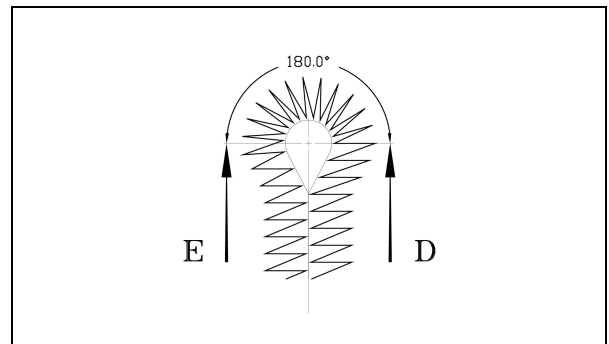

Fig 3
1. When stitching around the eye, the upper and lower races must turn exactly 180 degrees. Loosen screw (C) and move forward for increased turning, and move back for less turning.
2. The race must begin turning at point (D) of the buttonhole, and must stop turning at point (E), as in Fig 3. Loosen screw (F) and move the stud forward to slow the turning, and move back to advance the turning.